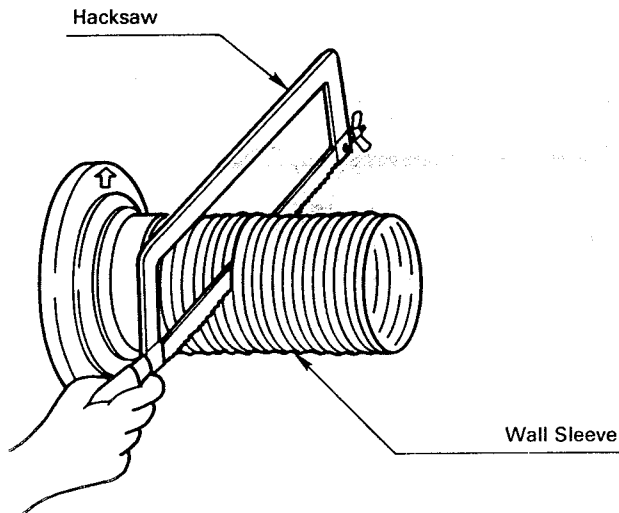

Fig. 9
- c. From outside, cut off the extra protruding length of the wall sleeve. Leave 2 or 3 threads from sleeve nut (See Fig. 9 & 10).